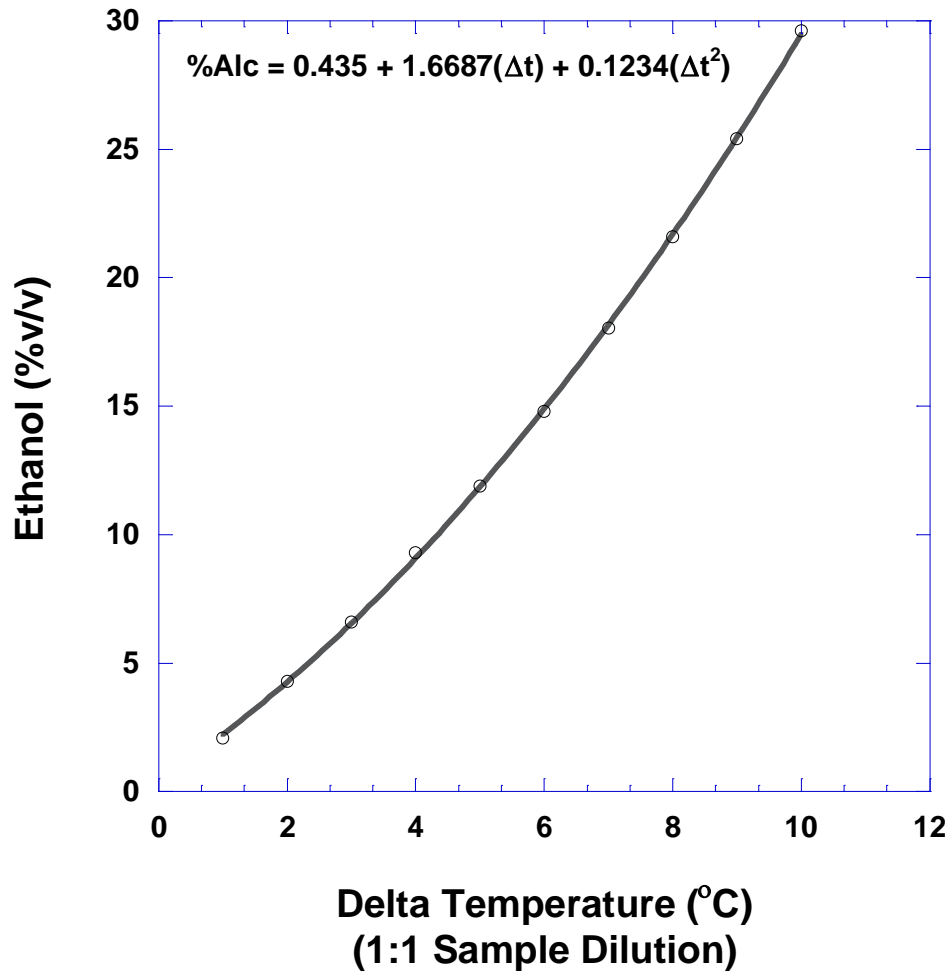

Figure E-1.
Ebulliometry involves the measurement of the decrease in the boiling point (BP) caused by the presence of alcohol in a wine sample. Because the boiling point of a solution also varies with atmospheric pressure, the effects of ethanol are evaluated relative to the boiling point of a control sample of distilled water (determined under identical conditions). The relationship between Δt ($BP_{\text{water}} - BP_{\text{wine}}$) and the %alcohol in the original wine sample is depicted in Figure E-1.